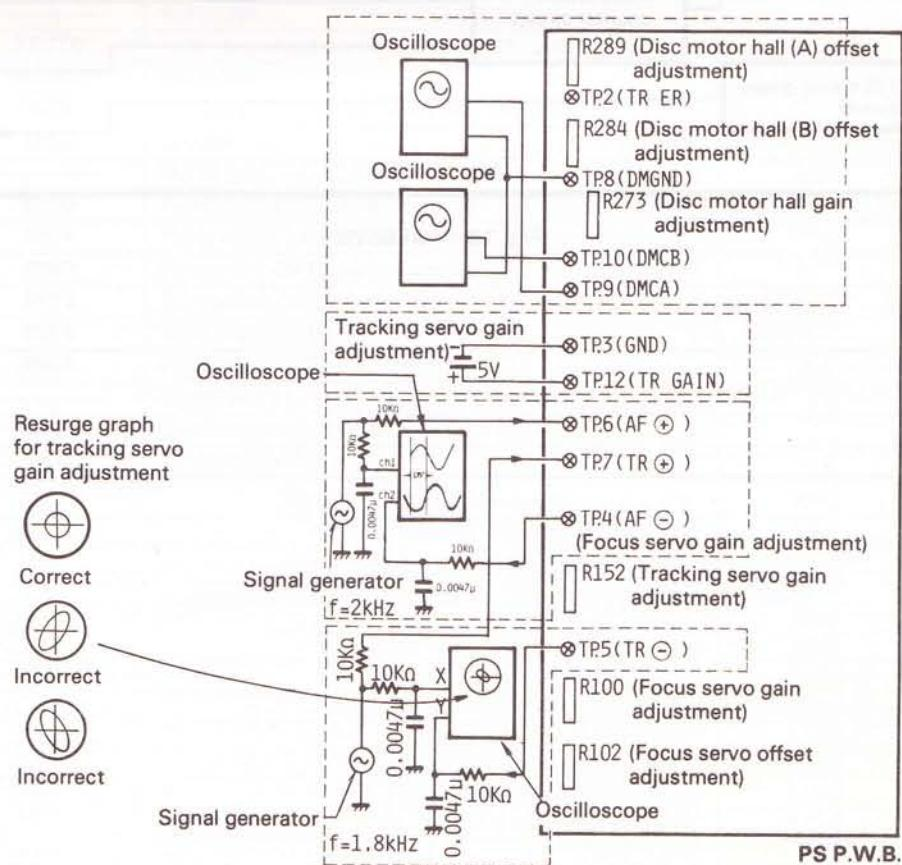

Fig. 18
(2) Adjustment method
- [1] Connect the signal generator and oscilloscope like it is illustrated in Fig. 18.
- [1] Connect the signal generator and oscilloscope like it is shown in Fig. 18.
- [5] Adjust R152 until the resurge graph on the oscilloscope looks like the correct example in Fig. 18.